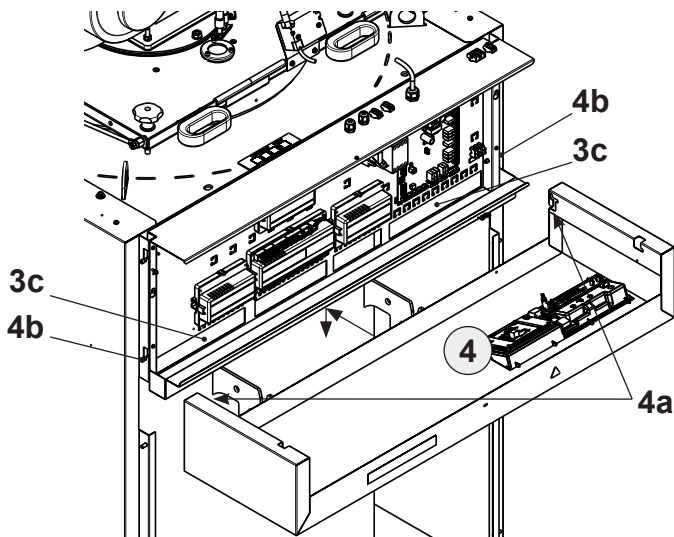

Fig. 13
- Cables passing through one of the two cable ducts (1.1/1.2) must be inserted through the openings at the bottom of the terminal plate (3c, Fig. 13).